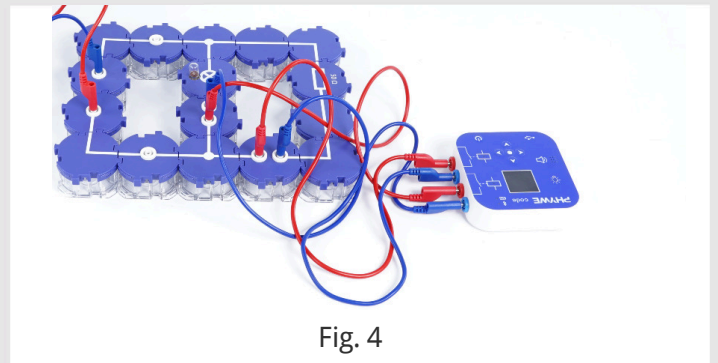

Fig. 4
- Connect the two lower connections to the resistor circuit. (Fig. 4)